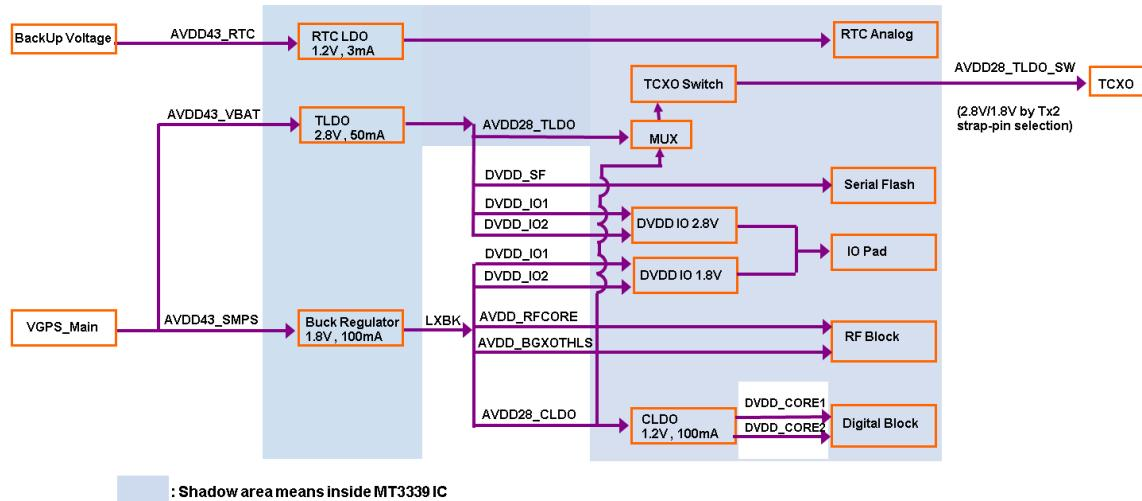
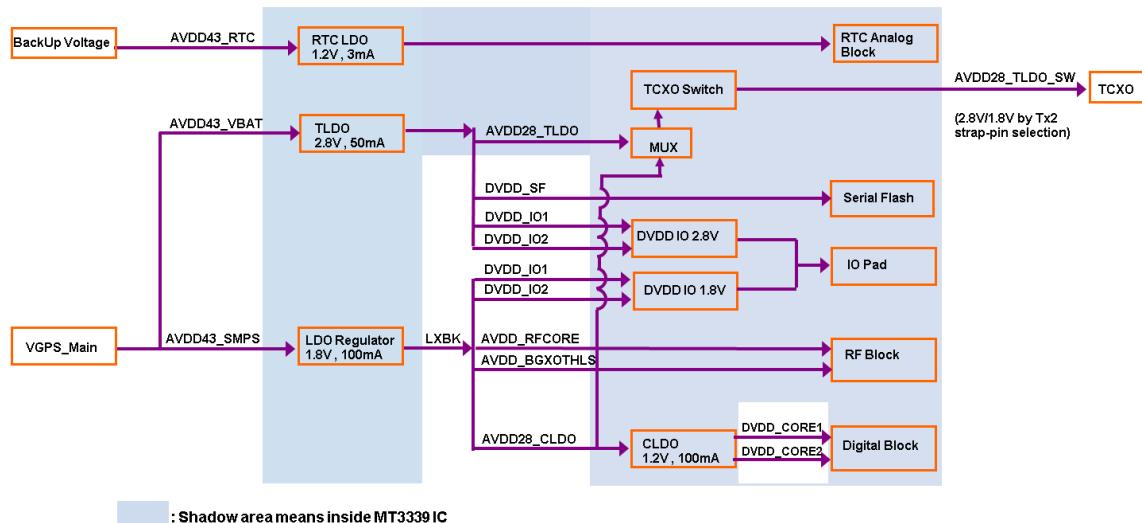
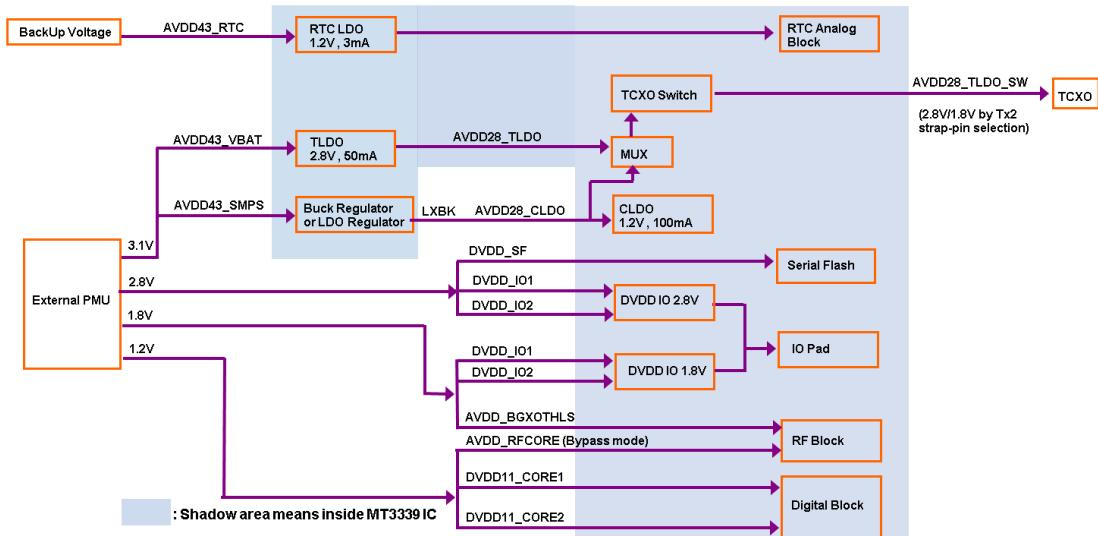

Figure 5-6: Power supply connection (low power)
Figure 5-7: Power supply connection (low cost)
Figure 5-8: Power supply connection (external LDO)
This section introduces the power schemes along with other power and voltage assignments — low power (Figure 5-6), low cost (Figure 5-7) and external PMU (Figure 5-8).
- In Figure 5-8, if 2.8V TCXO is used, AVDD28_CLDO should be open for low power operation.